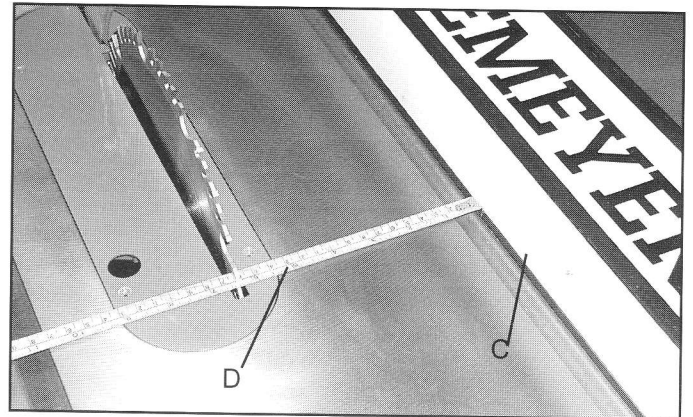

Fig. 24
2. Align fence side (C) Fig. 24, with the miter slot on the table saw and lock fence in position. Using a measuring tape (D), measure the distance from the saw blade to the fence side.